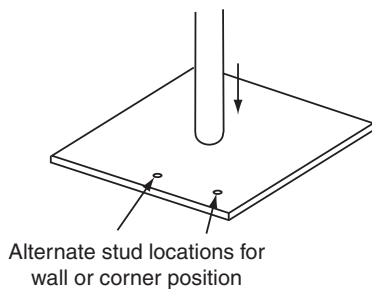

Figure 2
- ① Attach uprights to steel bases using studs and place as close as possible to final position (see Fig. 2).